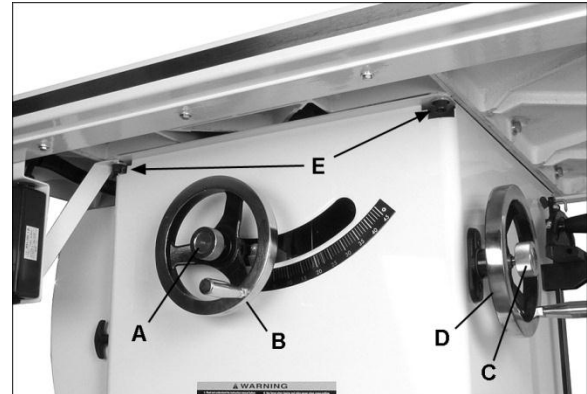

Figure 17
1. To raise or lower saw blade, loosen lock knob (A, Figure 17) and turn hand-wheel (B) on the saw front until desired height is reached. Tighten lock knob. Blade should be adjusted no more than 1/8" to 1/4" above top surface of material being cut.
2. To tilt blade, loosen lock knob (C, Figure 17), turn hand-wheel on right of saw cabinet (D) until desired angle is obtained, then tighten lock knob.
7. If measurements are not equal, locate the four screws that hold table to cabinet (E, Figure 17).